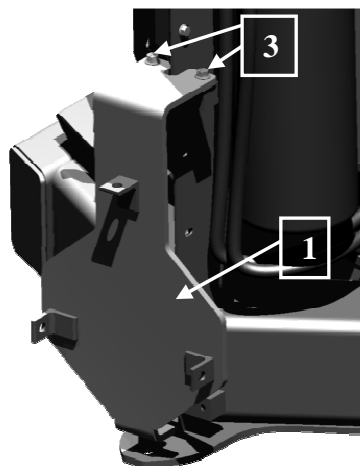

Figure 6
7. Place the Handle Bracket Weldment [Item #1] as shown in Figure 6 and secure at the top using the two 3/8-16 X 3/4" bolts [Item #3] provided in this kit. Do not tighten the bolts yet.